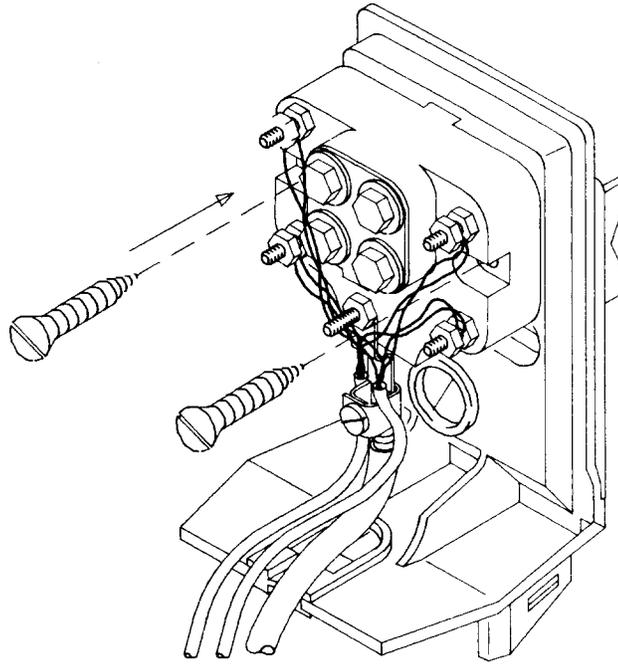

Fig. 4—Mounting Protector Block to Base
4.02 For rehabilitating existing installations, remove the protector block from the mounting surface (Fig. 2). ***Do not remove the wiring from the protector.*** Secure the base to the mounting surface (Fig. 3) and attach the protector to the base (Fig. 4). Place the wires through the horseshoe grommet (Fig. 5). Install the cover over the base and secure it as shown in Fig. 6.